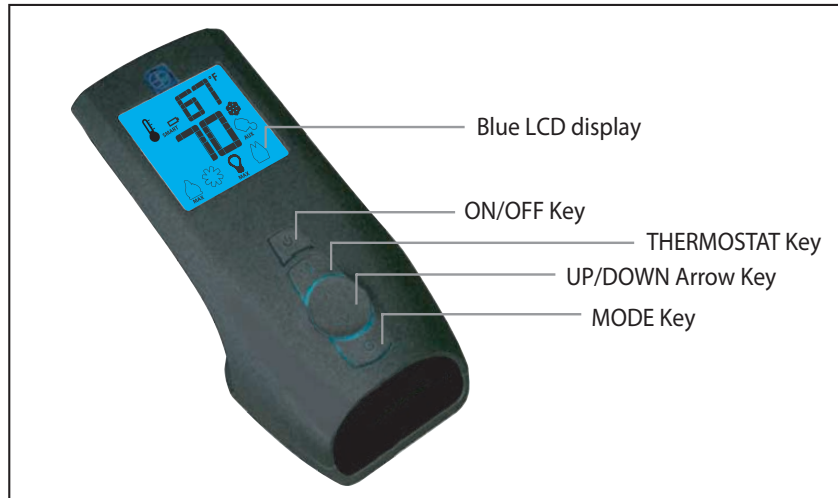
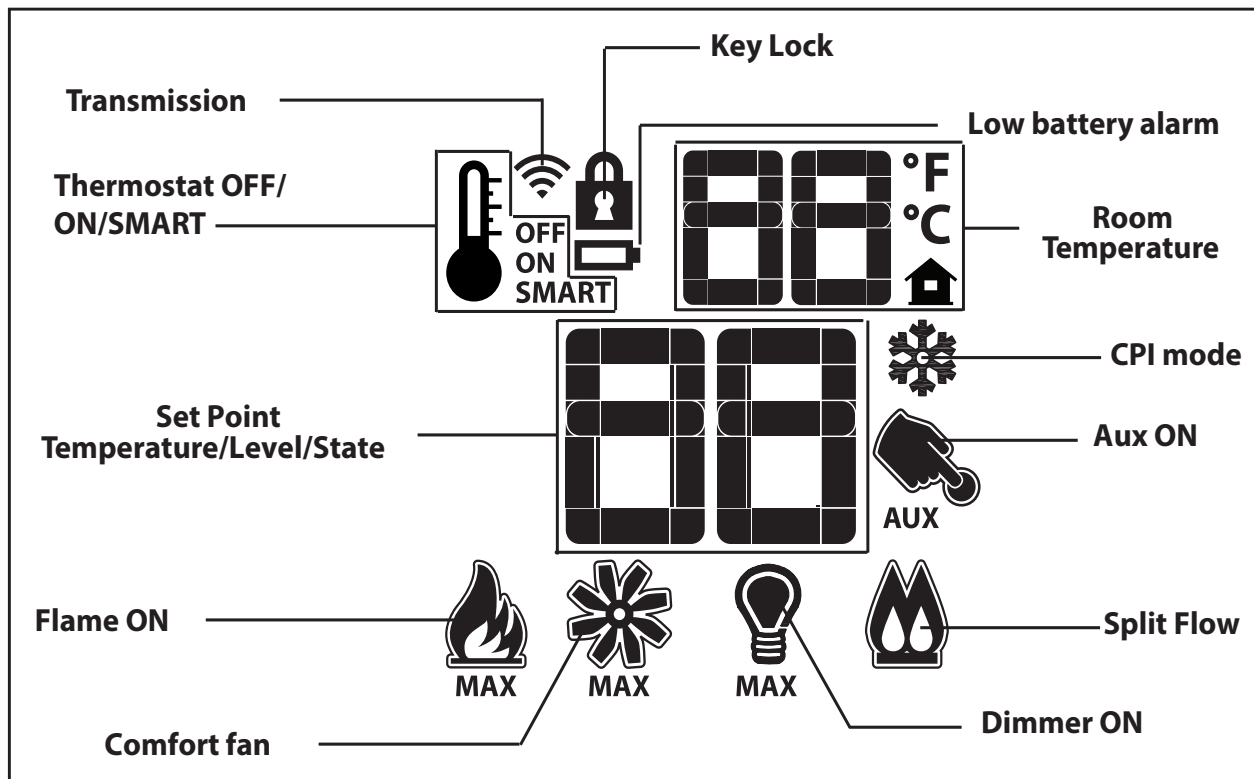
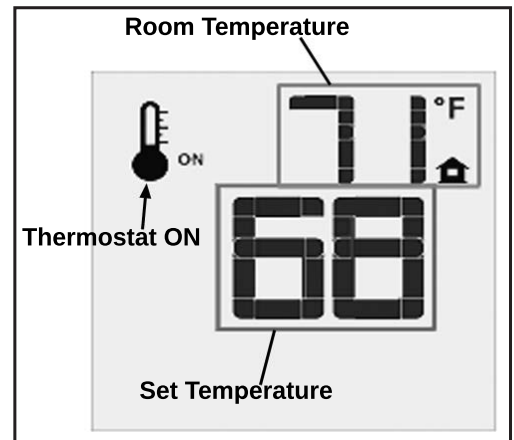

Figure 5: Proflame 2 Transmitter.
Figure 6: Proflame 2 Transmitter LCD Screen.
Figure 10: Remote Control Displays Set Temperature.
The Proflame 2 Transmitter is a black remote control with a blue backlit lcd display. It uses a streamline design with a simple button layout and informative lcd readout (Figure 5). The Transmitter is powered by three (3) AAA type batteries. A Mode Key is provided to Index between the features and a Thermostat Key is used to turn on/off or index through Thermostat functions (Figure 5 & Figure 6)
Press the ON/OFF Key on the Transmitter. The Transmitter LCD display will only show the room temperature and Icon (see Figure 10). A single “beep” from the IFC confirms reception of the command and both the pilot light (if the unit is not set to continuous pilot) and main burner will turn off.
The Remote Control can operate as a room thermostat. The thermostat can be set to a desired temperature to control the comfort level in a room. To activate this function, press the Thermostat Key (see Figure 5). The LCD display on the Transmitter will change to show that the room thermostat is “ON” and the set temperature is now displayed (see Figure 10). To adjust the set temperature, press the Up or Down Arrow Keys until the desired set temperature is displayed on the LCD screen of the Transmitter.